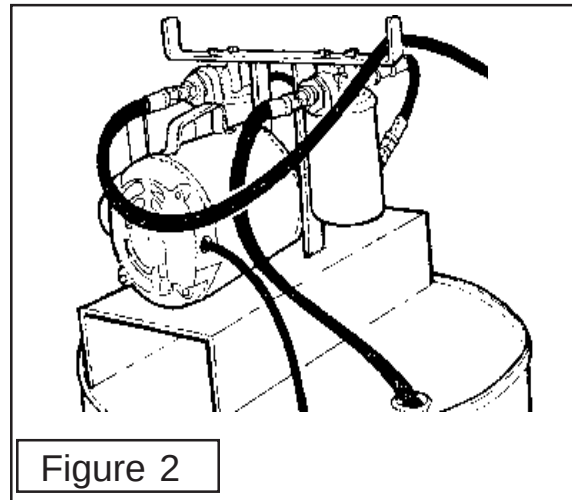

Figure 2
4. Avoid hydraulic contamination by filtering the hydraulic oil while filling the hydraulic tank. Filter buggies or carts are commercially available for Pre cleaning oil before it is installed or hydraulic system cleanup. These consist of a high-efficiency, high-capacity filter, a circulating pump, a drive motor, and hoses for connecting to oil supply. (See Figure 2 & 3)
When adding hydraulic oil, use only new oil from a sealed barrel. Used oil or oil from an open barrel may contain high levels of contamination. Transfer the new oil into the hydraulic tank by using a hydraulic filter pump unit equipped with a properly operating micron filter to achive rquired cleanliness level is a must. This will insure that the oil being added is safe to use. Do not just pour the oil directly into the hydraulic tank since most oils (even from a sealed barrel) have contaminants that should be removed, before operating the hydraulic system. (See Figure 2 & 3).